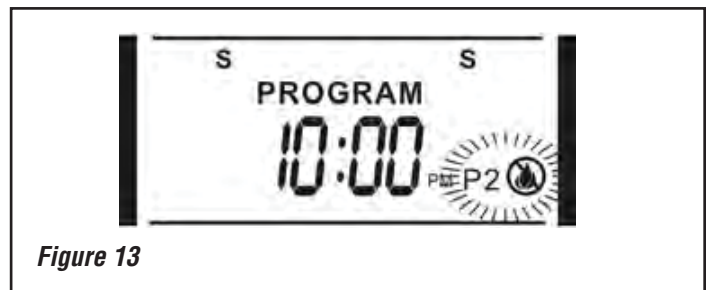

Figure 13
- P2 OFF will be flashing. Select a time you want your appliance to turn off. Then press SET (See Figure 13).